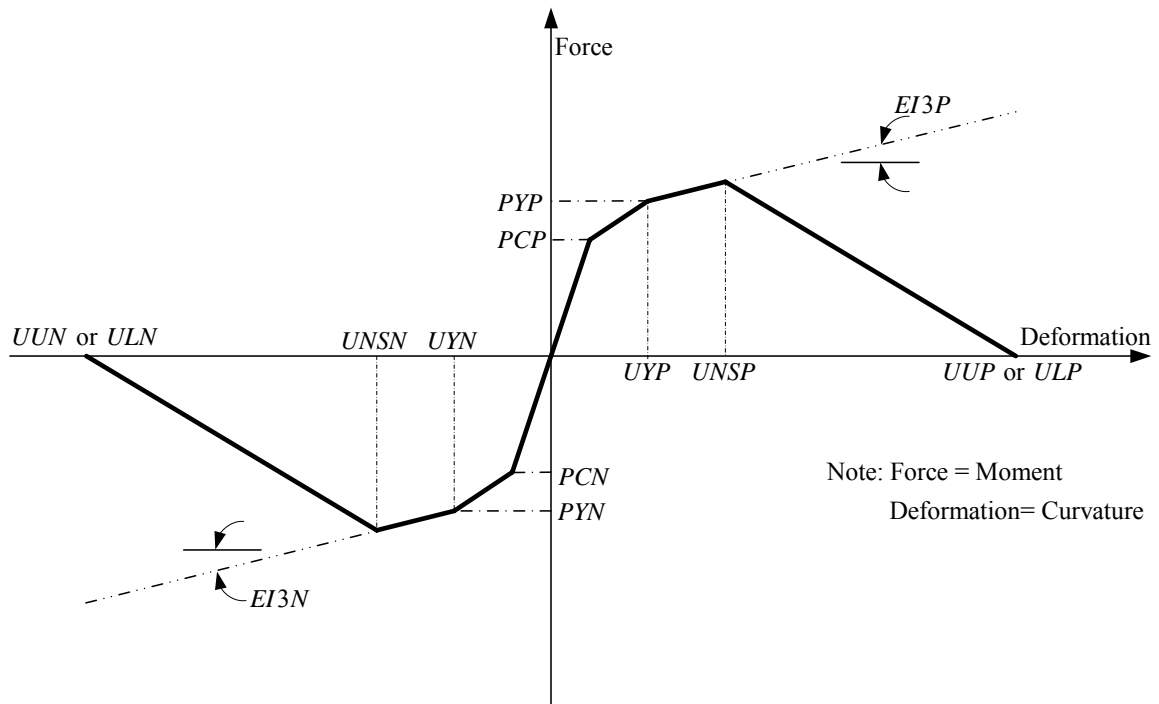

Fig. A-10 Notation for User Input Trilinear Envelopes for rocking column
**SET D3(c):** ICTYPE=3; *Rocking Column Input Data Set* (SEE FIGURE A-10)